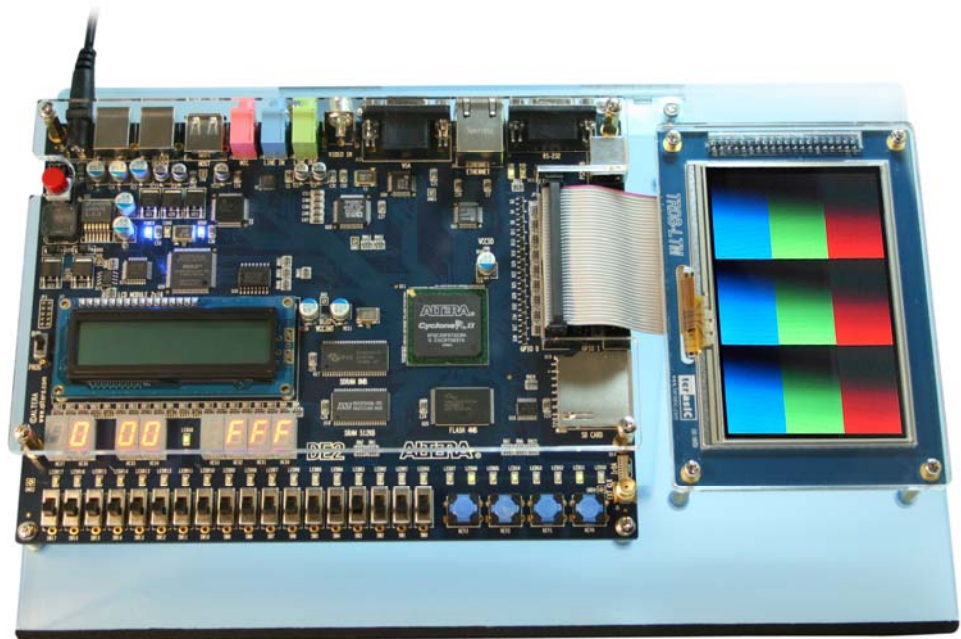
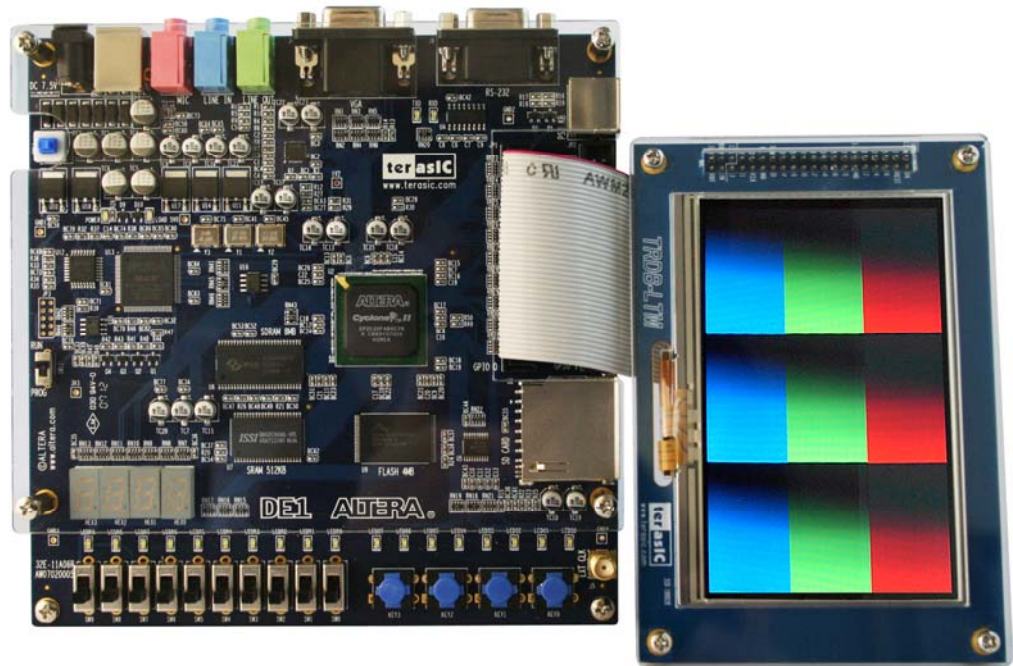

Figure 4.11. The connection setup for the pattern generator demo with DE2 board
Figure 4.12. The connection setup for the pattern generator demo with DE1 board
1. Ensure the connection is made correctly as shown in Figure 4.11 and Figure 4.12